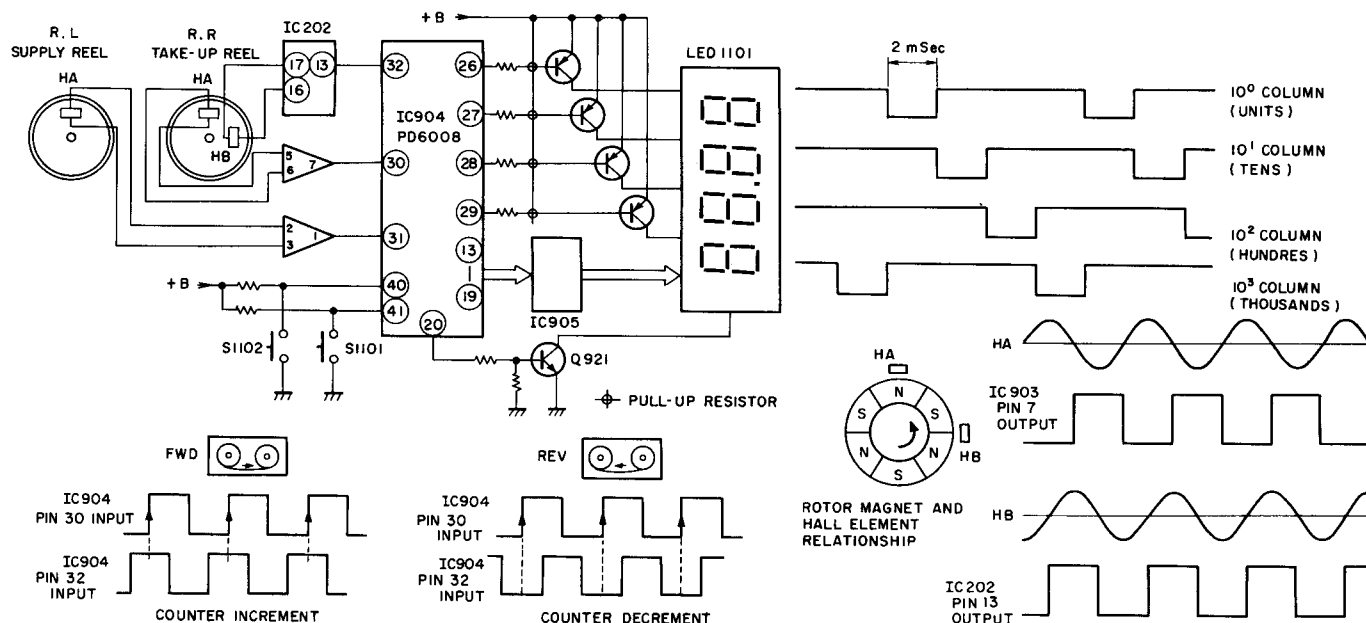

Fig. 1-29 Tape counter increment/decrement "nnnn"
1. As shown in Fig. 1-29, the Hall voltage generated by the Hall element (H252 : HB) built into the right reel carrier is applied to pins 16 and 17 of IC202 (PA2010) and is output from pin 13.
6. When the tape is traveling in the FWD direction, the pulse shown in Fig. 1-29 is applied with each turn of the reel, causing the counter to increase.
7. When the tape is traveling in the REV direction, the pulse shown in Fig. 1-29 is applied with each turn of the reel, causing the counter to decrease.